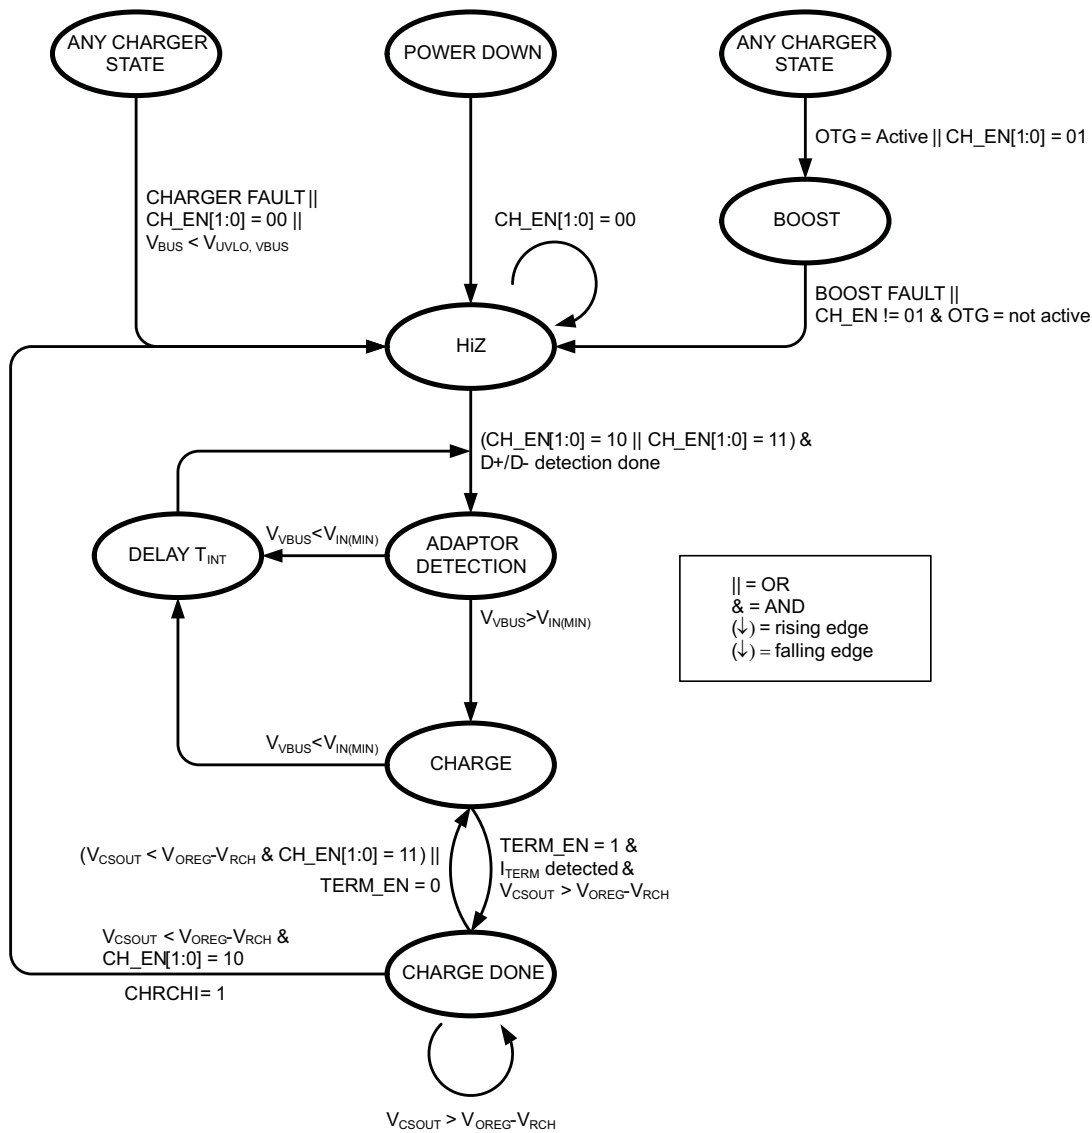
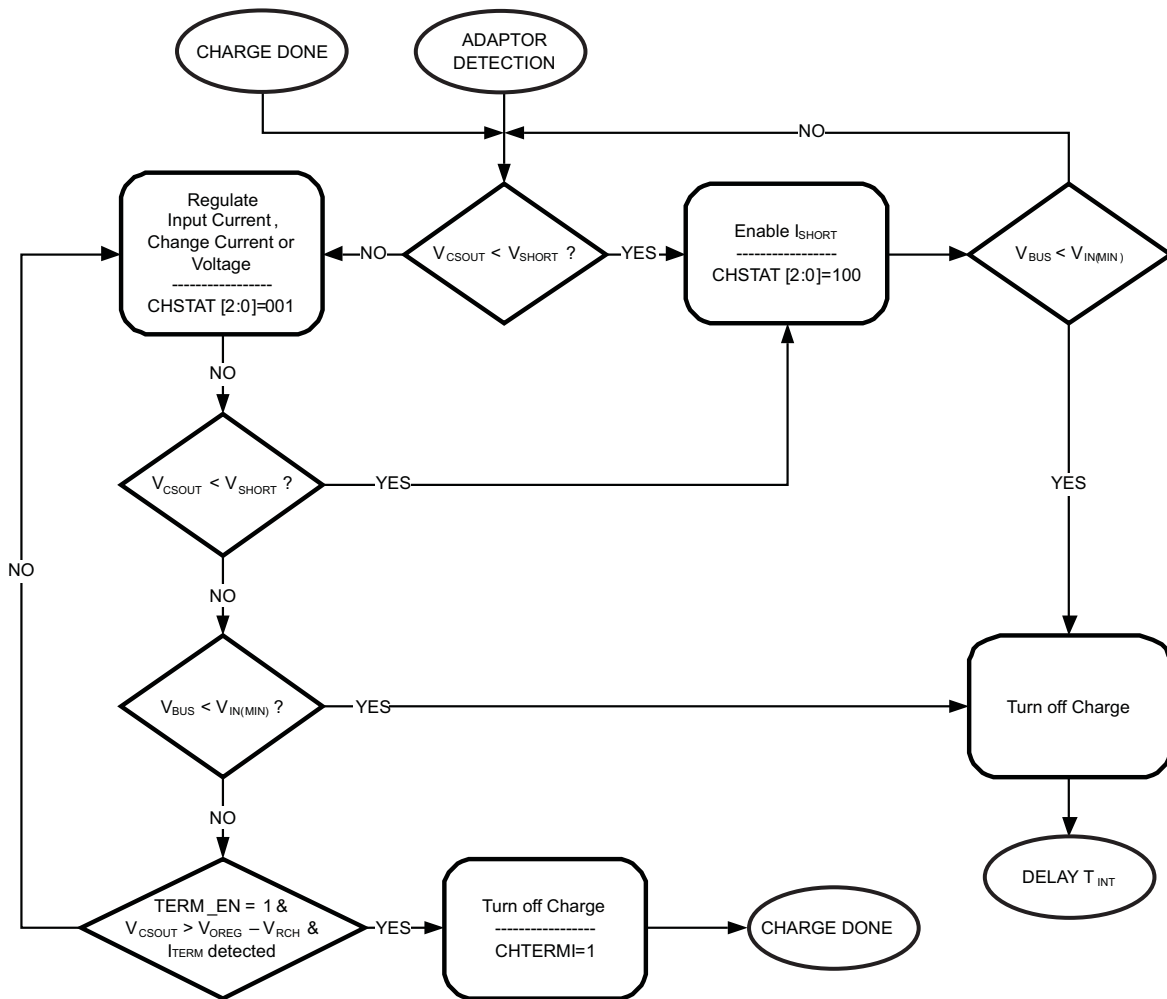

Figure 46. State Diagram of USB Charger Circuit
Figure 47. Detailed Charging Flow Chart
The global state diagram of the charger is shown in Figure 46 and the detailed charging algorithm in Figure 47. HiZ mode is the default state of the charger where Q1, charger PWM and boost operation is turned off. If any fault occurs during charging, the CH\_EN[1:0] bits in the CONTROL register are reset to 00b (OFF), fault bits are set in the INT2 register, an interrupt is issued on the INT pin, and HiZ mode is entered. Charging is re-initiated by either host control or automatically if VBUS is power cycled.
- The device is in `CHARGE DONE` state (see Figure 46) and the `TERM_EN` bit is set from 1 to 0.